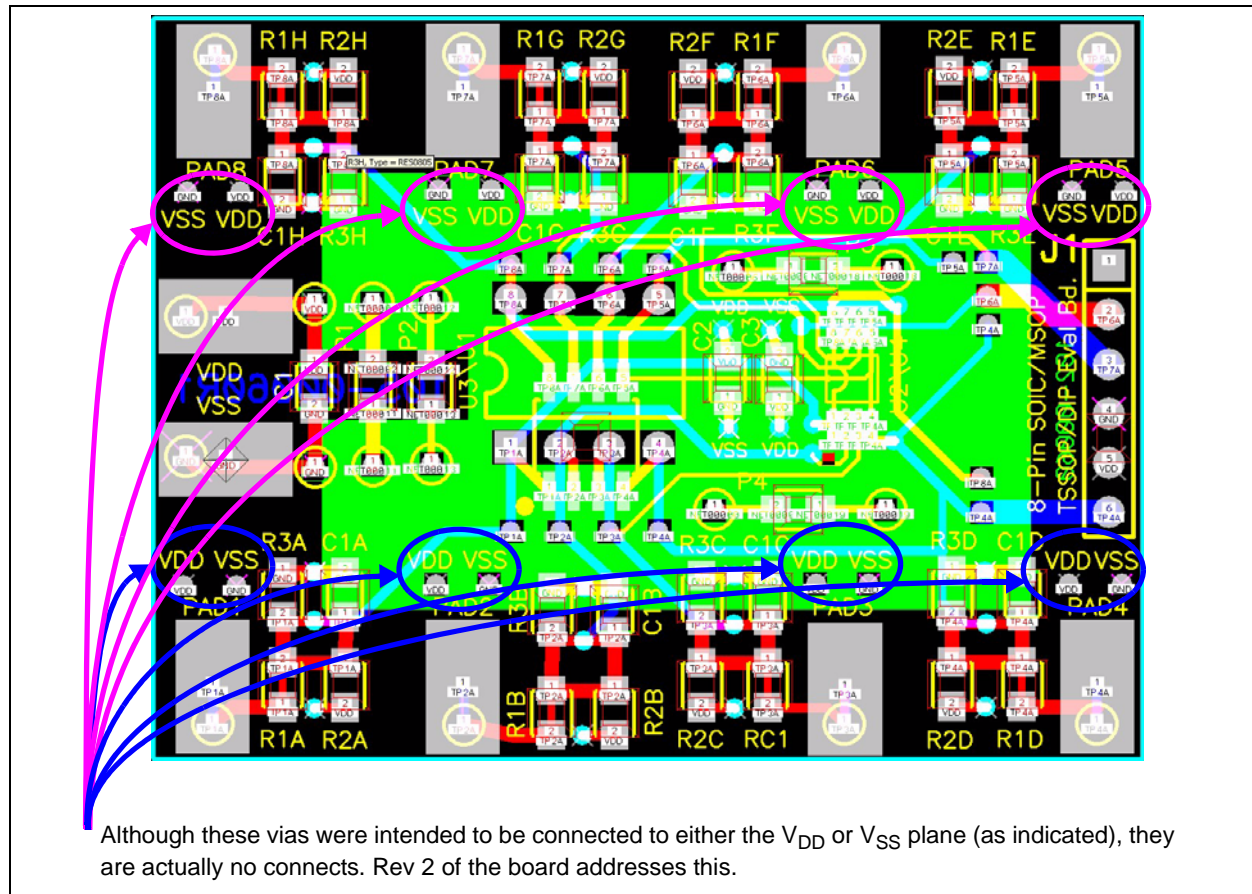
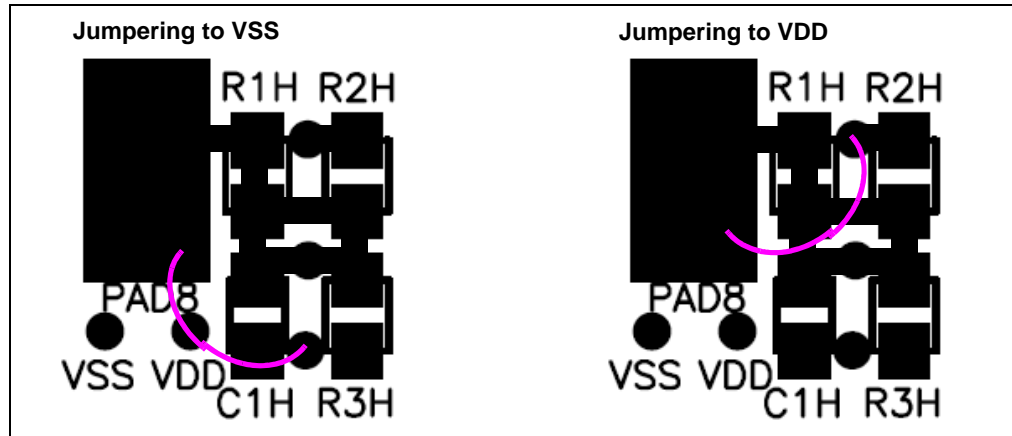

FIGURE D-1: 8-Pin SOIC/MSOP/TSSOP/DIP Evaluation Board Gerber - Top Layer + Silk-Screen.
FIGURE D-3: *Alternate Jumpering the PCB pad to either VSS or VDD.*
1. VDD and VSS vias near each pad are No Connects (they should have been connected to the appropriate power or ground plane). See Figure D-1 shows the location of these vias that are No Connects. Figure D-3 shows alternate connections that can be made.
Figure D-3 shows how the pad can be connected to either the V_{DD} or V_{SS} plane of the PCB.